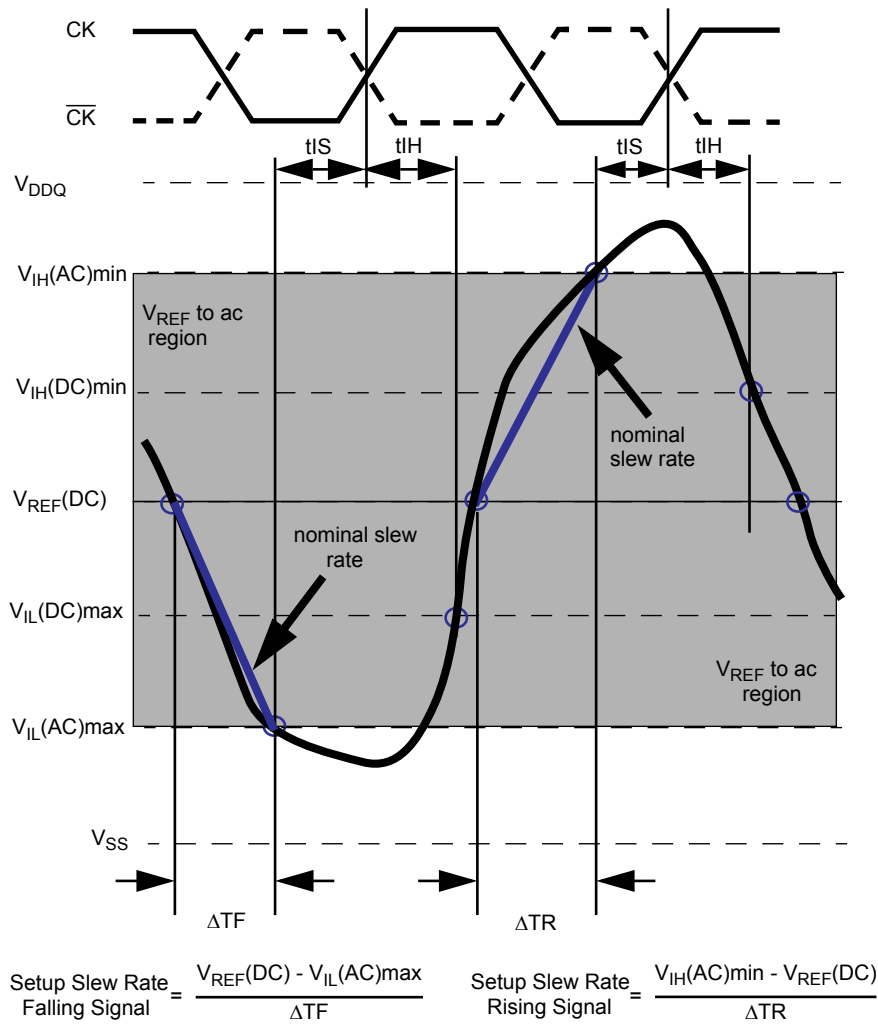
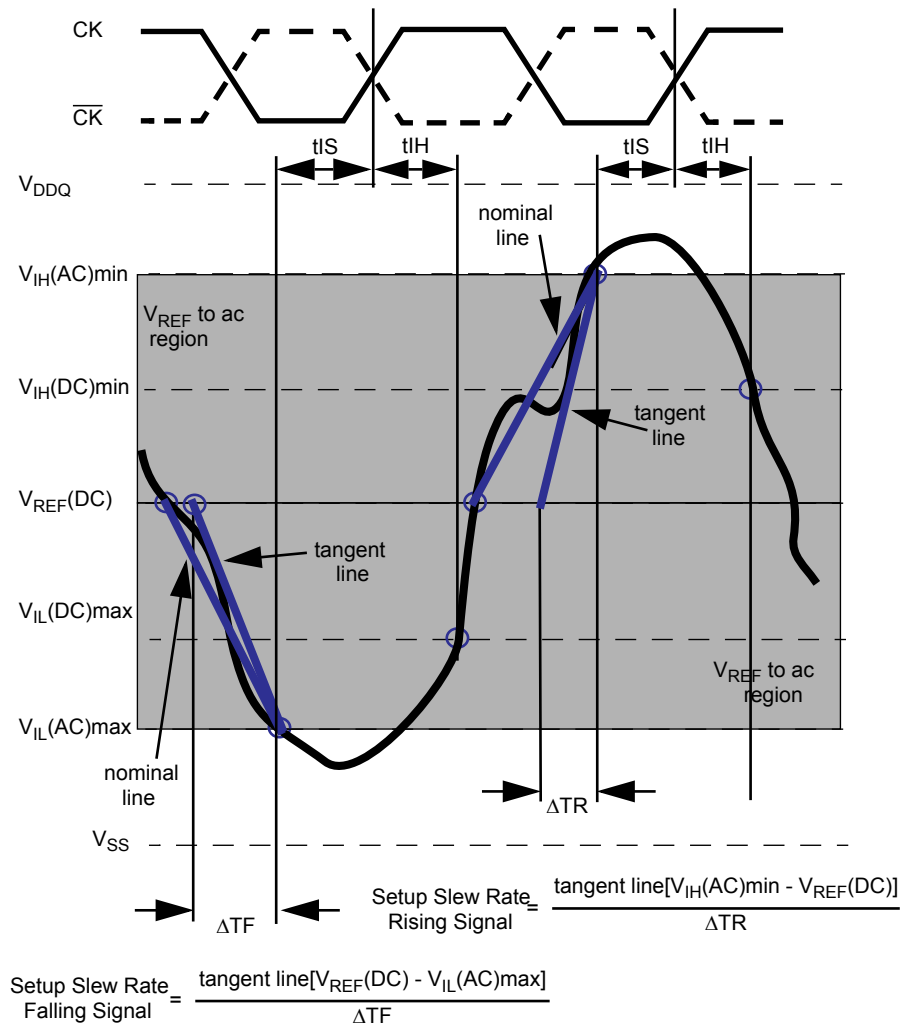

Figure 15. Illustration of nominal slew rate for tIS
Figure 16. Illustration of tangent line for  $t_{IS}$
Setup (tIS) nominal slew rate for a rising signal is defined as the slew rate between the last crossing of VREF(DC) and the first crossing of VIH(AC)min. Setup (tIS) nominal slew rate for a falling signal is defined as the slew rate between the last crossing of VREF(DC) and the first crossing of VIL(AC)max. If the actual signal is always earlier than the nominal slew rate line between shaded 'VREF(DC) to ac region', use nominal slew rate for derating value (see Figure 15). If the actual signal is later than the nominal slew rate line anywhere between shaded 'VREF(DC) to ac region', the slew rate of a tangent line to the actual signal from the ac level to dc level is used for derating value (see Figure 16).